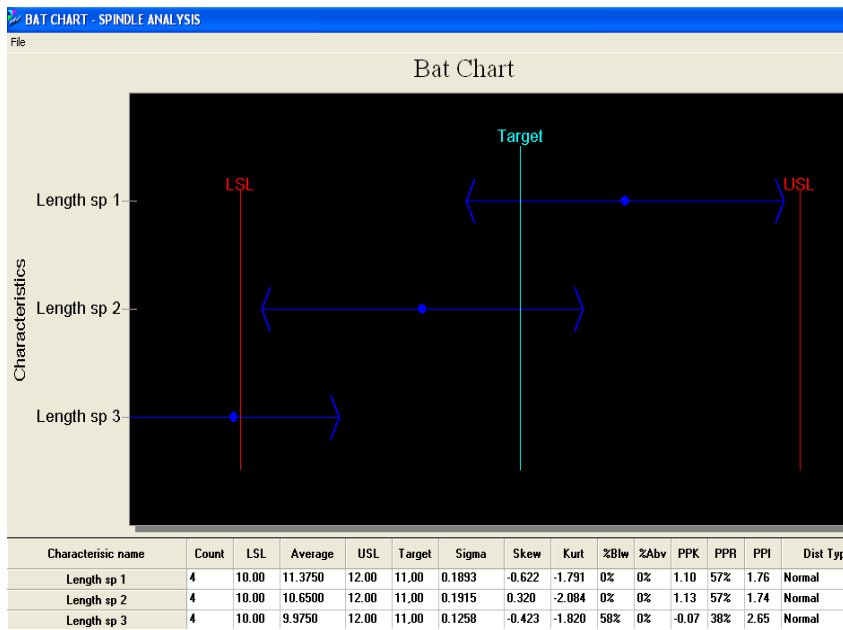

Figure 3: Bat chart report
- Bat chart report (See figure 3)